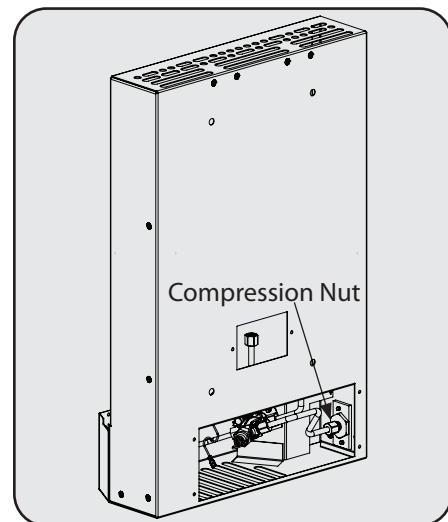

Figure 11
3. Use a 9/16" (or 14 mm) wrench to remove the compression nut connecting the inlet gas tube to the enclosure. See Figure 11.